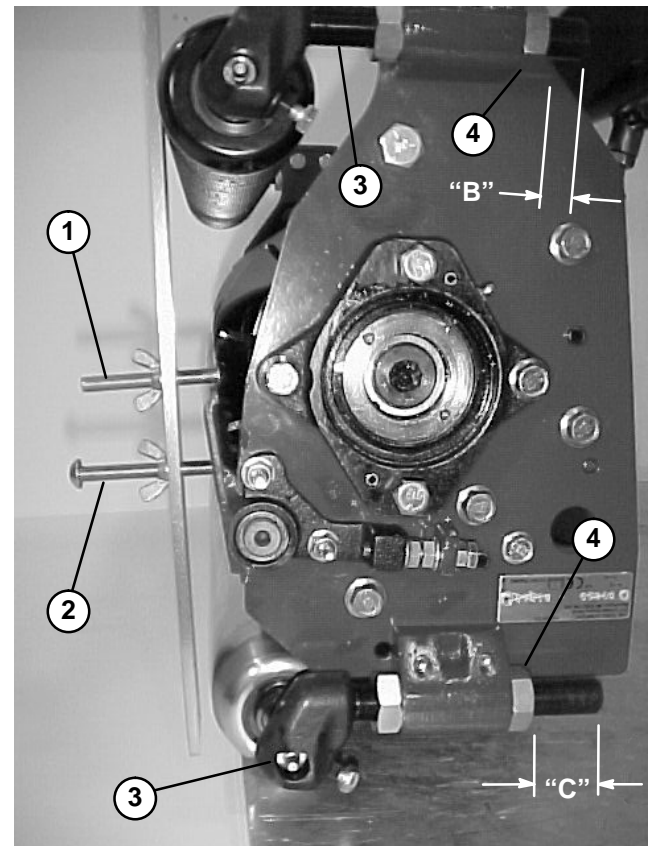

Figure 14
4. Set the front height-of-cut rod height, "B," using the dimension given in **Table 1**. This measurement is between the top surface of the height-of-cut rod and top cone nut (Fig. 14).
5. Set the rear support casting in either the top or bottom location as indicated in **Table 1**. Set the rear height-of-cut rod height **.100" (3 mm)** less than the dimension given in **Table 1** which will create a gap between the rear roller and the gauge bar (Fig. 14).
6. Place gauge bar across front and rear rollers. The first screw head should fit snugly over edge of bedknife and the end of second screw should contact bottom of bedknife (Fig. 14). If there is a gap between the front roller and the gauge bar or you can not put the gauge bar on, adjust the front roller until: (1) first (height-of-cut) screw fits snugly over bedknife, (2) second screw just contacts bedknife, and (3) gauge bar touches front roller. Verify front roller (attitude) at each end of the bedknife.